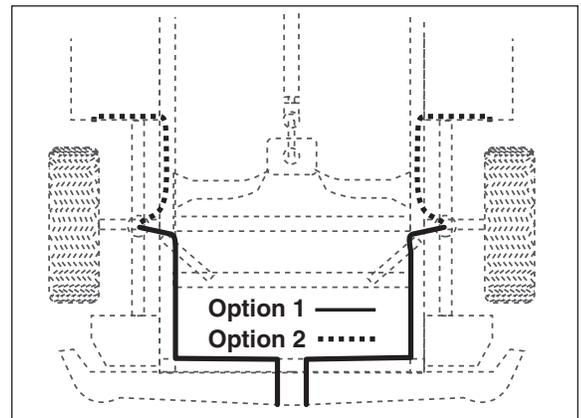

Figure 5
- Select a location for the inflation valves in the rear bumper area or rocker panel flange ensuring that each valve will be protected and accessible with an air hose (Figure 5).